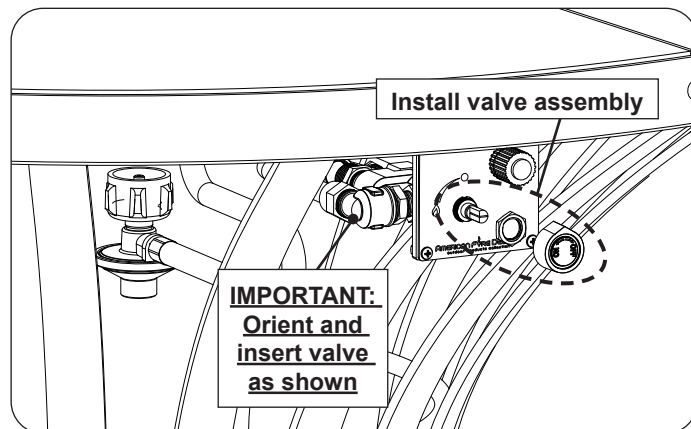

Fig. 37-3 Install valve assembly
7. Insert the valve assembly through the plate (in the base). Replace the nut onto the valve stem, and tighten. Reinstall the control knob. See Fig. 37-3.
Important: Handle with care to prevent damage to the thermocouple and gas connections. Ensure the valve is oriented and inserted in the manner shown. See Fig. 37-3.